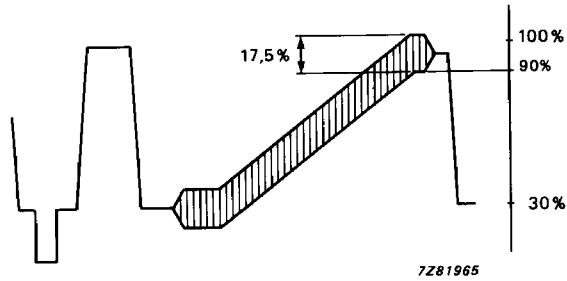

Fig. 2 Video output signal.
8. Measured in accordance with the test line given in Fig. 2.